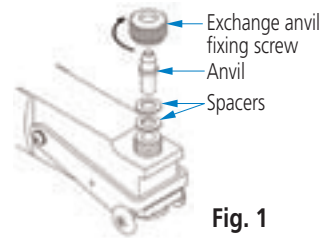

Fig. 1
2. When setting up the measuring range using spacers on the anvil, always use the minimum number of spacers possible. (Fig. 1)